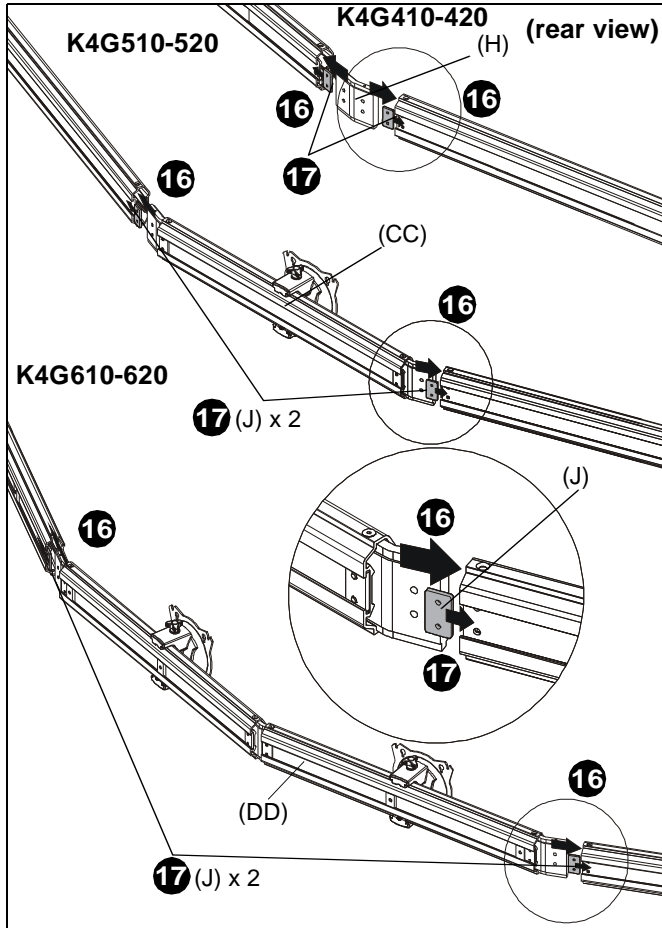

Figure 7
16. Insert array connector (H) [K4G410/420 models] or connectors pre-installed on both end of center plates (CC or DD) into left and right array arm openings. (See Figure 7)
17. Slide array plates (J) into grooves on back of array arms, lining up holes on plates with holes in arms. (See Figure 7)